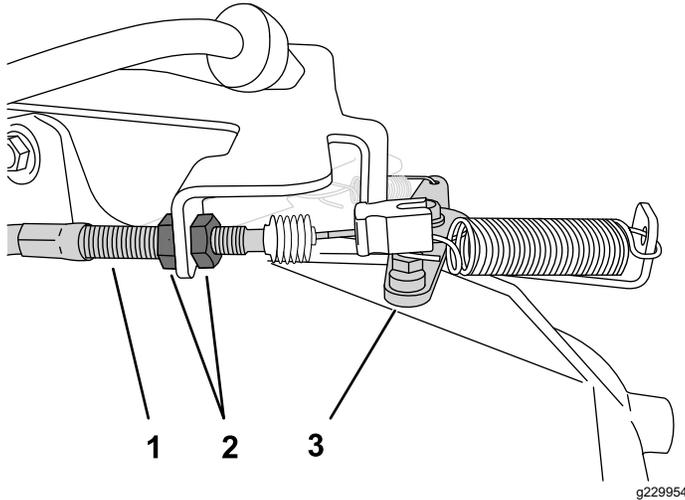

Figure 46
2. At the throttle cable housing, loosen the forward jam nut and tighten the rear jam nut to increase the low idle (Figure 46).